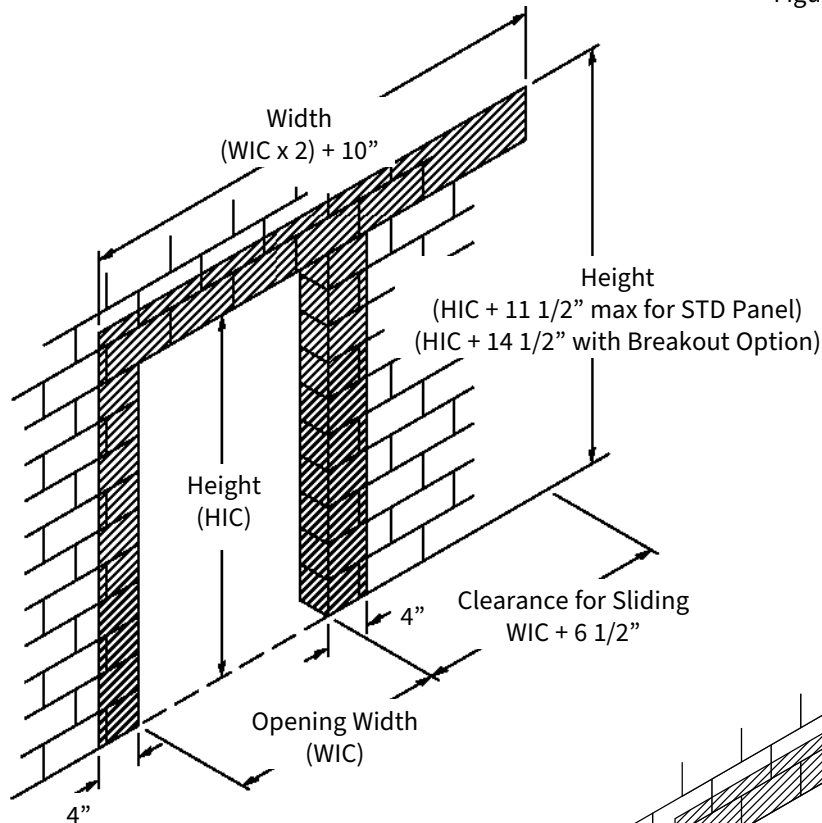

Figure 12: Door Measurements
1. Measure door opening to verify door dimensions (Figure 12). Based upon dimensions in Figure 12, determine that door will have sufficient wall space to open. The side frames will fit flush to the edge of the opening.